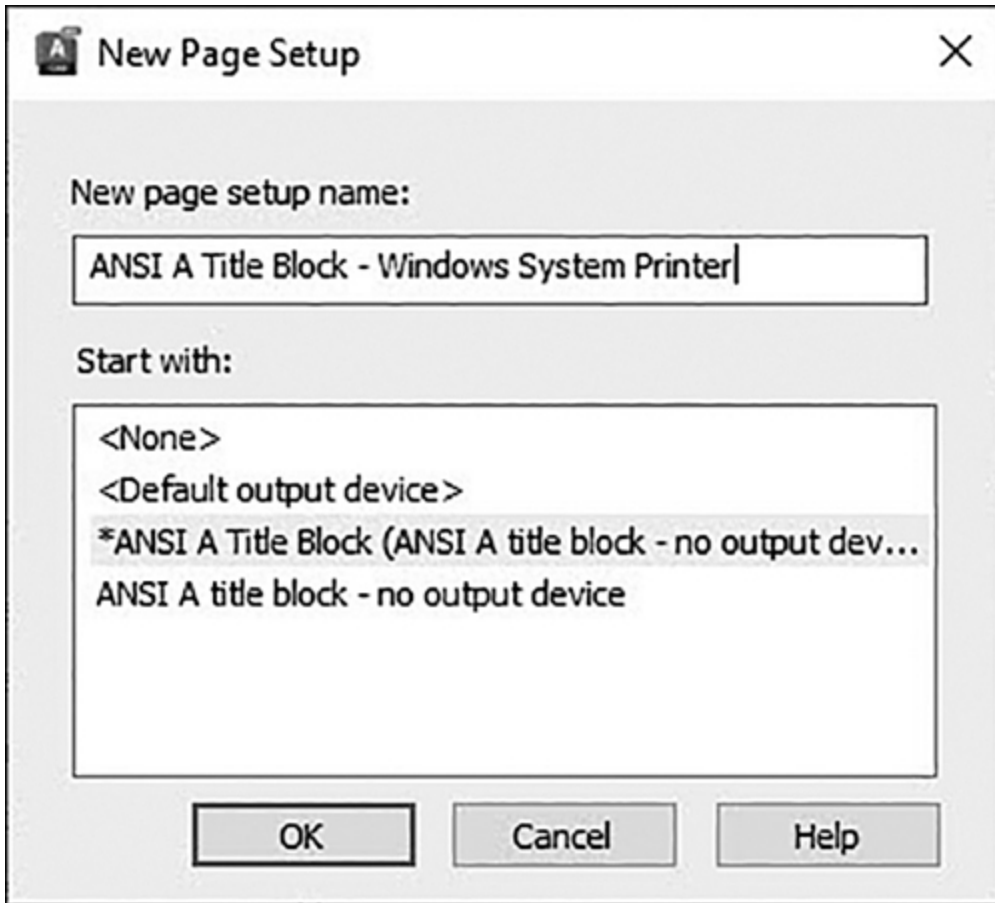

Figure 2-59
- 3** Choose **New...** to display the **New Page Setup** dialog box (see Figure 2-59).